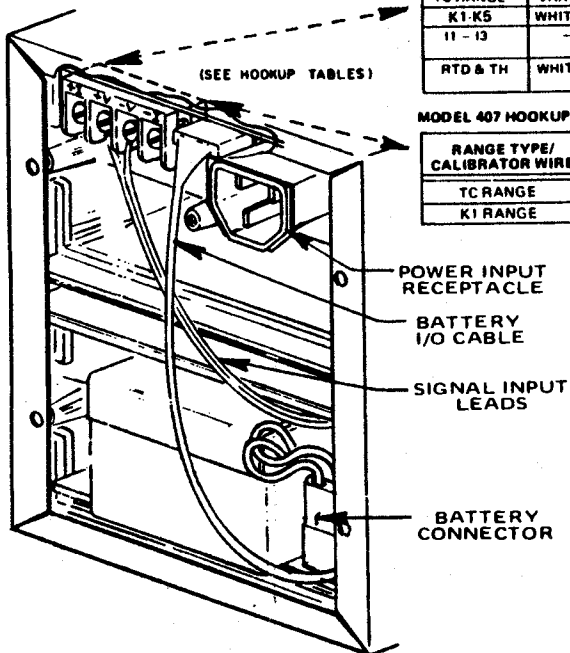

FIGURE 2-9. INDICATOR INSTALLATION IN A POWER PACK CASE
**d. Connect the battery I/O cable from the Power Pack board to P2 on the indicator as shown in Figure 2-9 (paint stripe visible on connector plug when connected).**
**e. Connect the front panel binding posts (from BEHIND the panel) to the rear input terminals of the indicator in parallel, using appropriate lengths of twisted pair wire (voltage, current, RTD, thermistor ranges) or thermocouple extension wire (thermocouple ranges). See Figure 2-9 for the correct polarity of various applications.**
**f. Plug the battery connector into the battery board as shown in Figure 2-9.**